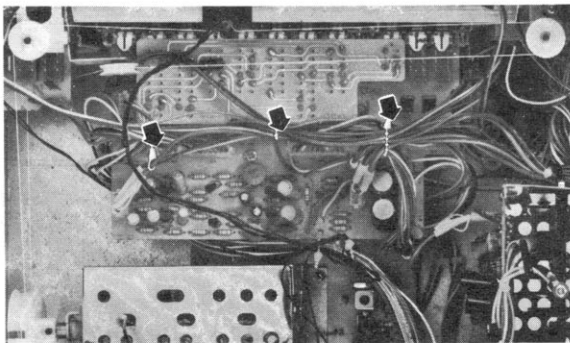

Fig. 26
3) Cut the cable in four places. (Refer to Fig. 26)